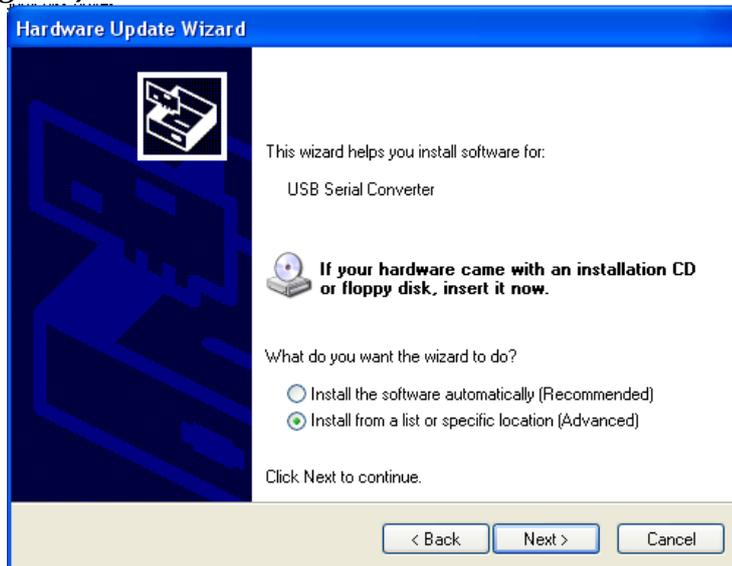

Fig. 46
- Select "Install from a list or specific location (Advanced)" as shown below and then click "Next" (*Fig. 46*).